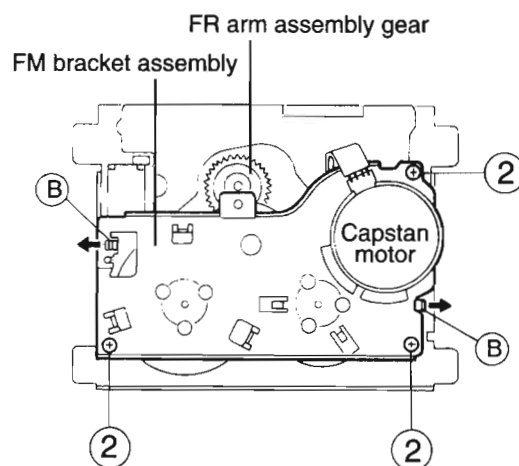

Fig 4
### (3) Removing the FM bracket assembly (See Fig 4)